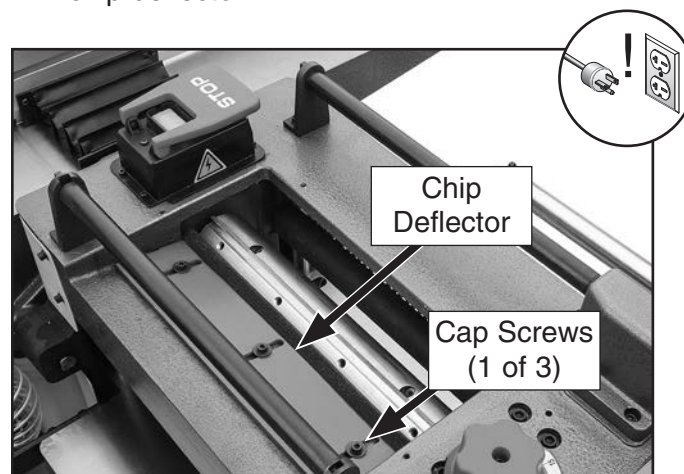

Figure 82. Location of chip deflector.
3. Rotate cutterhead until a knife reaches closest distance to chip deflector (see **Figure 82**), then measure distance between knife and chip deflector.